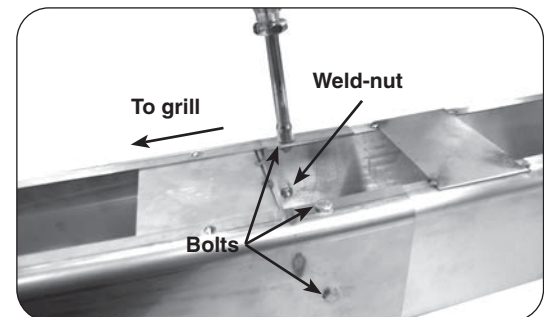

Fig. 20-2 Fasten extension to post
2. From outside the joined post and extension, insert one of the  $\frac{1}{4}$  X 20"-5/8 bolts (supplied) into each of the five (5) bolt holes and tighten each using a  $\frac{7}{16}$ " socket driver or wrench (see Fig. 20-2).